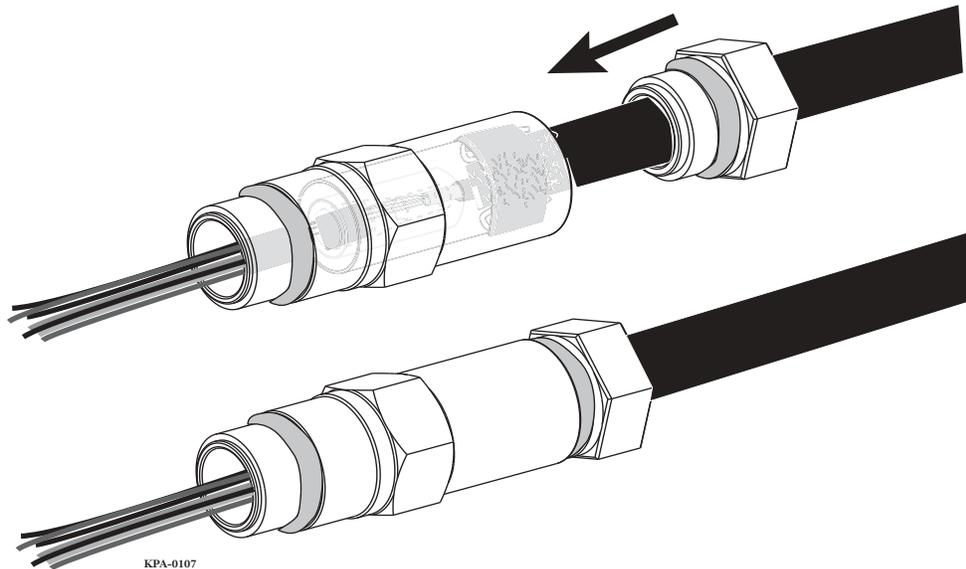

Figure 11
- Step 10** Screw the nut into the fitting hand tight (Figure 11).